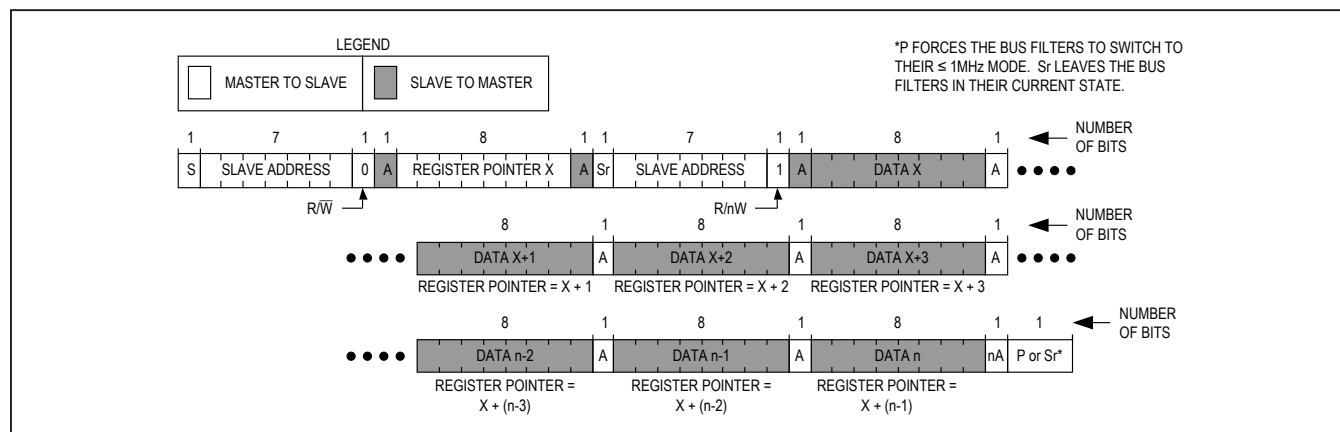

Figure 12. Reading Continuously from Sequential Registers x to n
Figure 12 shows the protocol for reading from sequential registers. This protocol is similar to the read byte protocol except the master issues an ACKNOWLEDGE (A) to